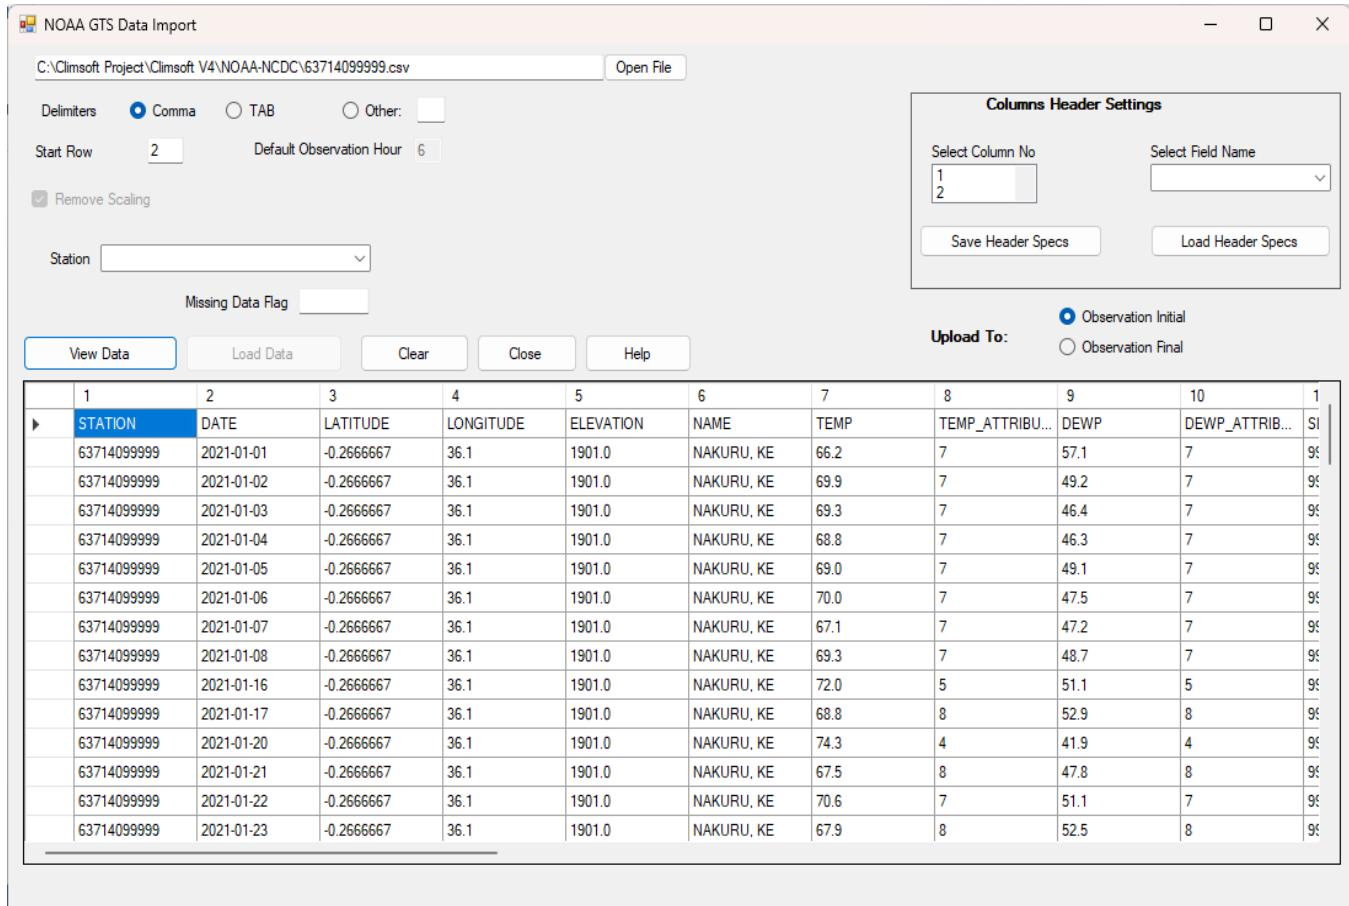

Figure 66: Importing data from a text file downloaded from NOAA-NCEI site
- Select “NOAA GTS” to open the dialog and browse the data file as shown in Figure 66 below.